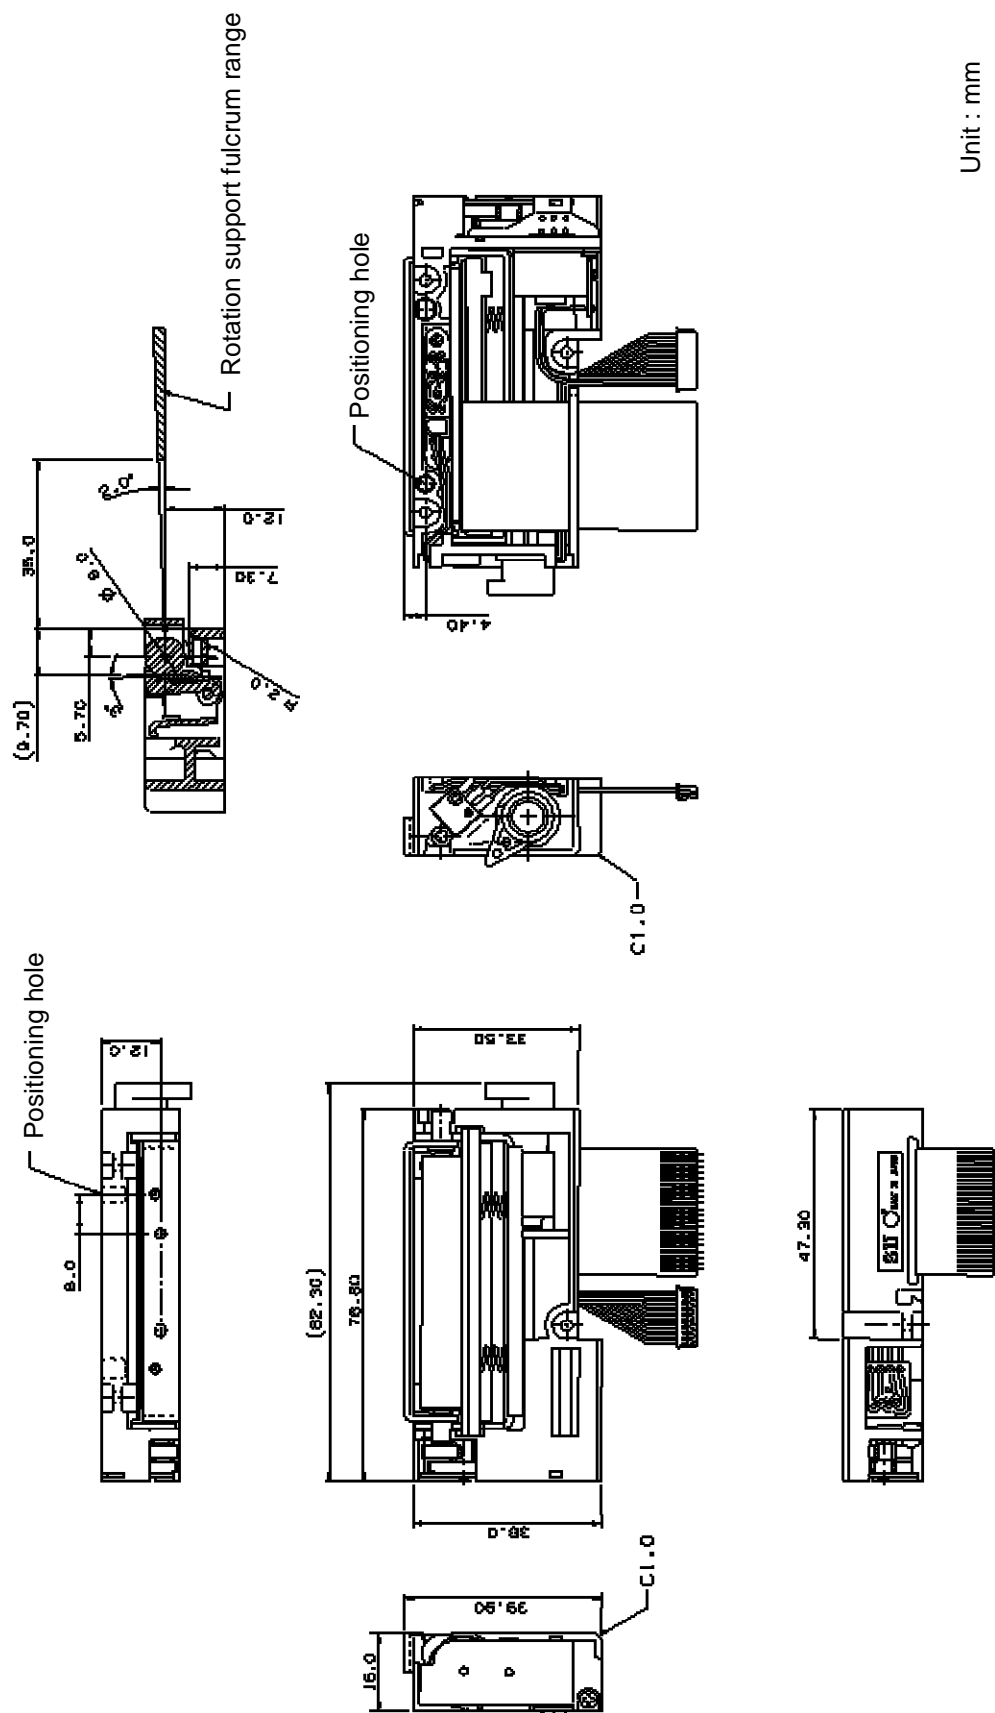

Figure7-1 Appearance and Dimensions (LTPH245D-C384-E)
- Secure the platen block to the printer correctly as shown in Figure 7-1. The platen block should not be used in any other way than as described in Figure 7-1.
Figure 7-1 and **7-2** show the appearance and external dimensions of the LTPH245D-C384-E.